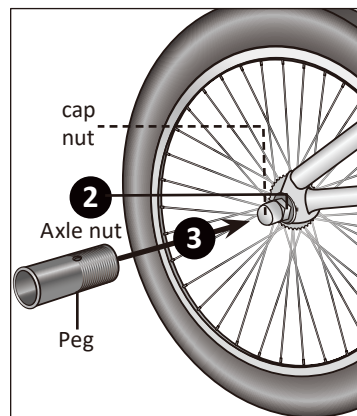

Figure 3.20
- ❶ **Do not** loosen or remove axle nuts.
- ❷ Check to make sure axle nuts are properly tightened before installing pegs.
- ❸ Thread the pegs on the axle. **Figure 3.20**
- ❸-1 if pegs install onto rearwheels, loosen the cap nuts and axle nuts firstly, then threaded the pegs on the axle over the axle nut.